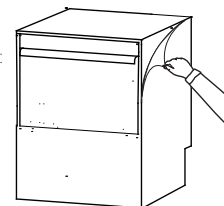

Fig.3
- 3- Remove the protection film from the appliance. (Fig. 3)